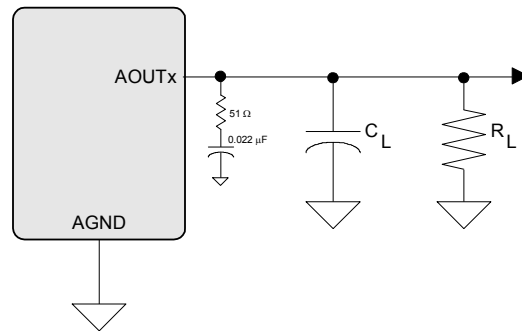

Figure 3. Headphone Output Test Load
10. See Figure 3. R_L and C_L reflect the recommended minimum resistance and maximum capacitance required for the internal op-amp's stability and signal integrity. In this circuit topology, C_L will effectively move the band-limiting pole of the amp in the output stage. Increasing this value beyond the recommended 150 pF can cause the internal op-amp to become unstable.
(Test conditions (unless otherwise specified): Input test signal is a full-scale 997 Hz sine wave; measurement bandwidth is 10 Hz to 20 kHz; Sample Frequency = 48 kHz and 96 kHz; test load $R_L = 10\text{ k}\Omega$, $C_L = 10\text{ pF}$ for the line output (see Figure 3), and test load $R_L = 16\ \Omega$, $C_L = 10\text{ pF}$ (see Figure 3) for the headphone output. HP_GAIN[2:0] = 011.)
Test conditions (unless otherwise specified): Input test signal is a full-scale 997 Hz sine wave; measurement bandwidth is 10 Hz to 20 kHz; Sample Frequency = 48 kHz; test load $R_L = 10\text{ k}\Omega$, $C_L = 10\text{ pF}$ (see Figure 3).
Test conditions (unless otherwise specified): Input test signal is a full-scale 997 Hz sine wave; measurement bandwidth is 10 Hz to 20 kHz; Sample Frequency = 48 kHz; test load $R_L = 16 \Omega$, $C_L = 10 \text{ pF}$ (see Figure 3).